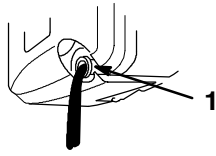

Figure 19
5. Tip the lawn mower onto its **left** side (air filter up), allowing the oil to drain into an appropriate container (Fig. 19).